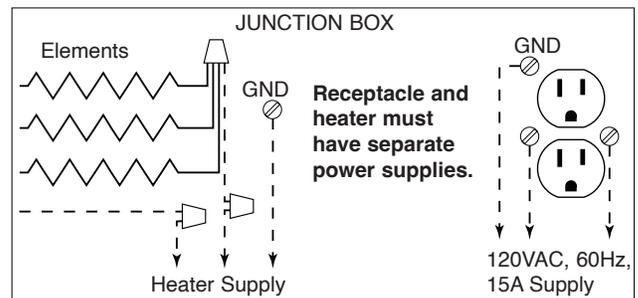

Figure 2
3. Wire receptacle to a 120VAC, 60 HZ, 15 Amp supply as shown in Figure 2 below.